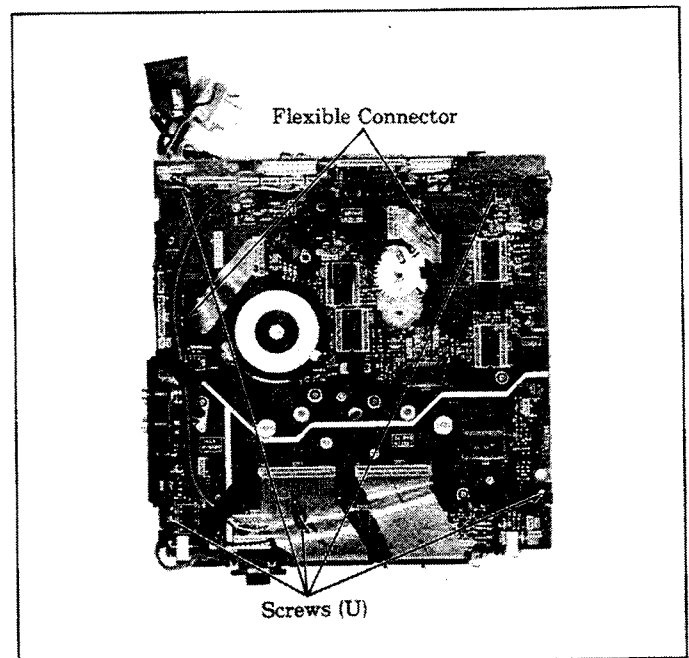

Fig. 16 Removal of Main C. Board-(1)
- (1) Remove 3 screws (T) on the Servo & Power Supply C. Board. Then remove 5 screws on the Main C. Board. (Refer to Fig. 16)
- (2) Disconnect 2 direct connectors DS21 and DS22.